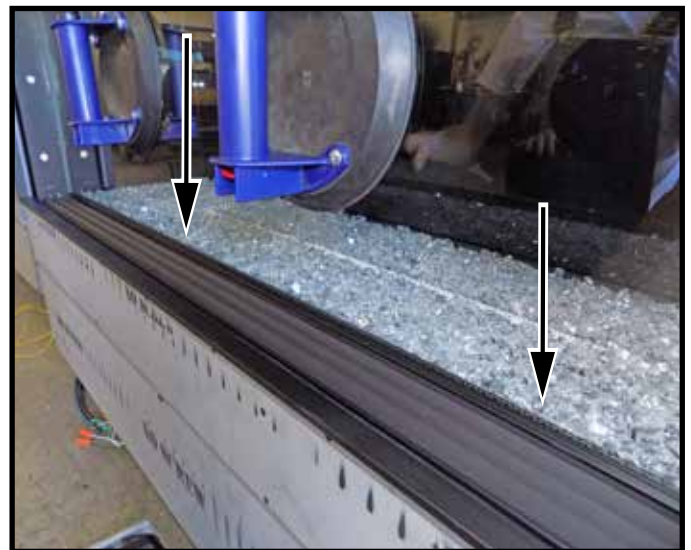

Figure 44: Lower the inside front plate into its slot.
6. Lower the inside front glass plate down into its lower slot (Figure 44). Center this glass plate.